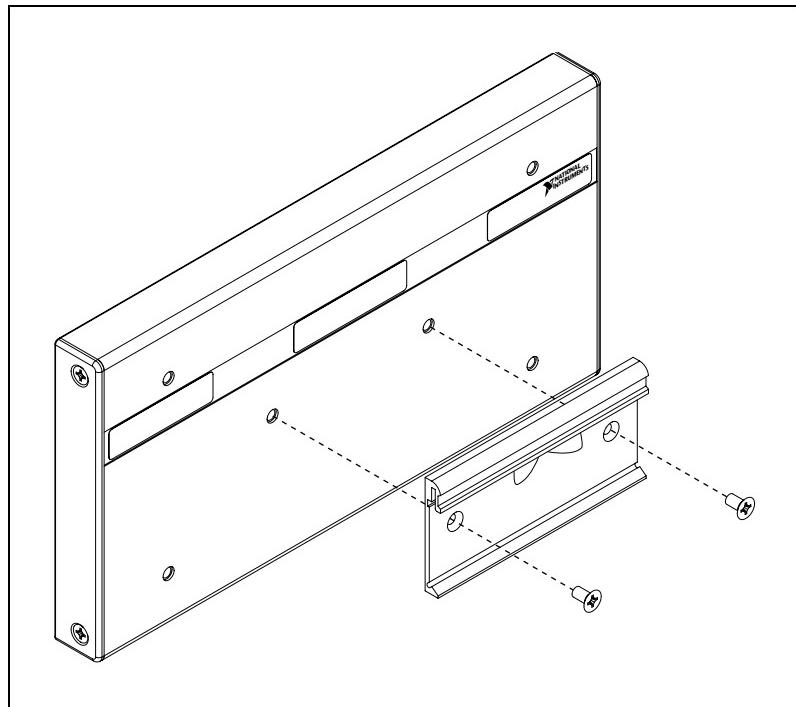

Figure 2-11. Fastening the DIN Rail Clip to the cFP-BP-4 Backplane
1. Fasten the DIN rail clip to the cFP-BP-4 using a number 2 Phillips screwdriver and the 8-32 × 5/16 in. countersink screws shipped with the DIN rail clip(s). These screws have a nylon coating to prevent them from loosening. Refer to Figure 2-11.